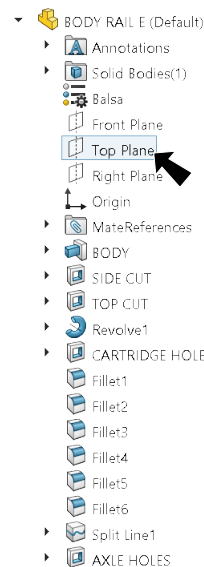

Fig. 20
Step 5. Expand the flyout Feature Manager design tree in the top left corner of the graphics area and click **Top Plane** , **Fig. 20**.